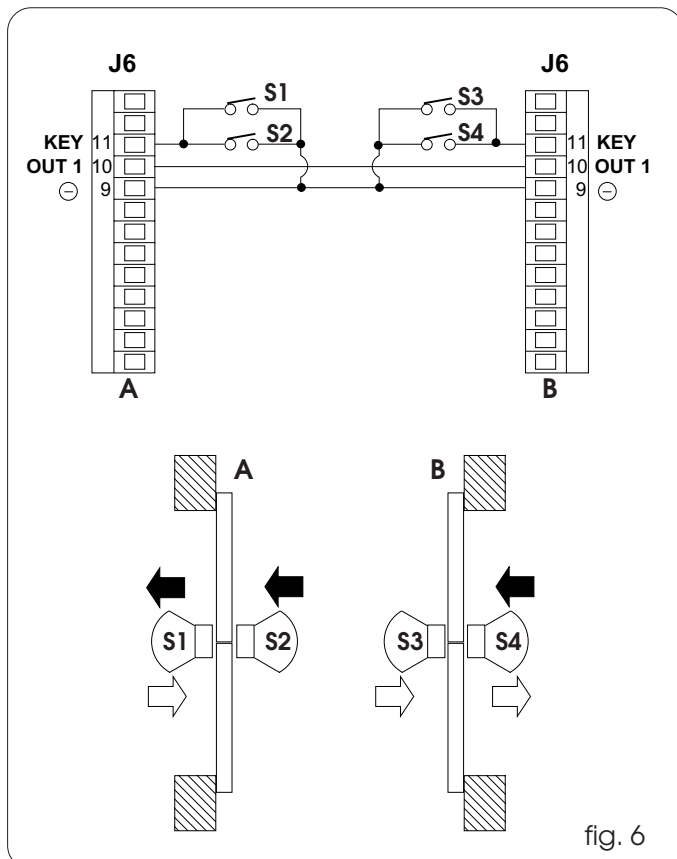

fig. 6
- Make the connections between the J6 terminal boards of the two SDM control boards and the sensors as shown in figure 6.